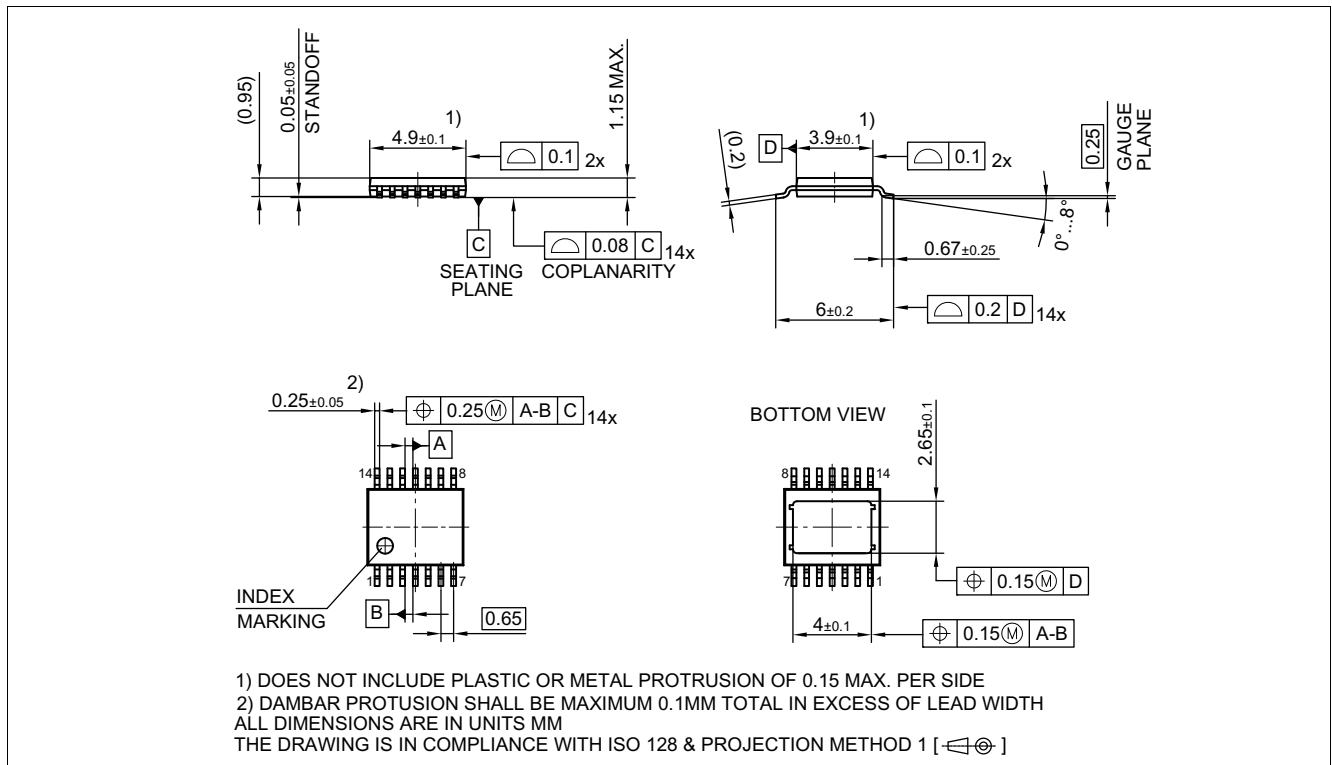
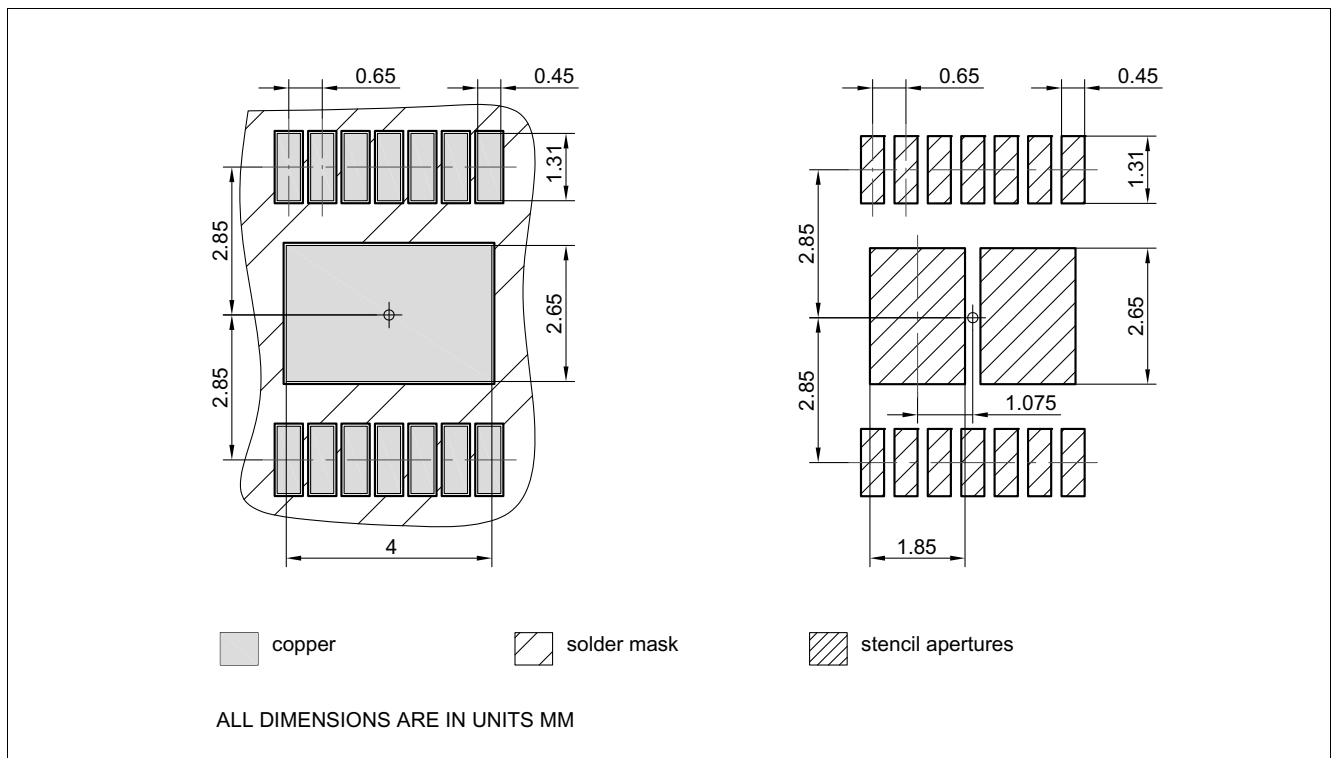

Figure 44 PG-TSDSO-14 (Thin (Slim) Dual Small Outline 14 pins) Package Outline
Figure 45 PG-TSDSO-14 (Thin (Slim) Dual Small Outline 14 pins) Package pads and stencil
1.04 , 2019-06-26	Chapter 9.2 updated (2 V → $V_{DS(OLOFF)}$) General: updated (ReverSave™ → ReverseON) Chapter 1 updated ((inserted headline "Product Validation"), (Qualified in accordance with AEC Q100 grade 1 → Qualified for automotive applications. Product validation according to AEC-Q100 Grade 1.)) General: updated Product Name (PROFET™+2 → PROFET™+2 12V) Page 1: updated figure product Table 24 updated punctuation Chapter 9.3.1 updated (typo) Page 1: updated (Package PG-TSDSO-14-22 → Package PG-TSDSO-14) Figure 29 updated Figure 44 updated (PG-TSDSO-14-22 (Thin (Slim) Dual Small Outline 14 pins) Package Outline → PG-TSDSO-14 (Thin (Slim) Dual Small Outline 14 pins) Package Outline) Figure 45 updated (PG-TSDSO-14-22 (Thin (Slim) Dual Small Outline 14 pins) Package pads and stencil → PG-TSDSO-14 (Thin (Slim) Dual Small Outline 14 pins) Package pads and stencil) Table 1 updated ((Symbol: $I_{VS(SLEEP)} \rightarrow I_{VS(SLEEP)_{85}}$), (Parameter: Minimum Overvoltage protection ($T_J = 25\text{ °C}$) → Minimum Overvoltage protection ($T_J \geq 25\text{ °C}$)) P_9.6.0.6 updated (Note or Test Condition: removed unnecessary line-break)